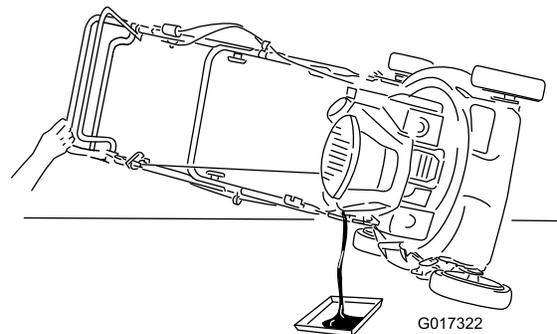

Figure 19
- Tip the machine onto its side, with the air filter up, then remove the dipstick to drain the used oil out through the oil-fill tube (Figure 19).